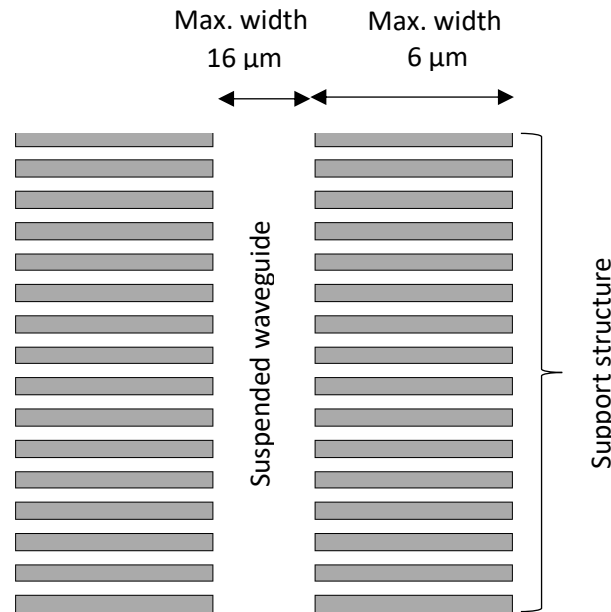

Figure 1: Design rule for suspended and supporting/subwavelength structure maximum width
- After HF etch, the expected lateral BOX undercut is 8 µm. Therefore, the maximum width of suspended structures should be 16 µm (see Figure 1).
- Width of the supporting structure/subwavelength structure <6 µm have proven to work (see Figure 1). **If you try more challenging dimensions, do so at your own risk.**
[§] After HF etch, the expected lateral BOX undercut is 8 µm. Therefore, the maximum width of suspended structures should be 16 µm (see Figure 1).
^αWidth of the supporting structure/subwavelength structure <6 µm have proven to work (see Figure 1). **If you try more challenging dimensions, do so at your own risk.**